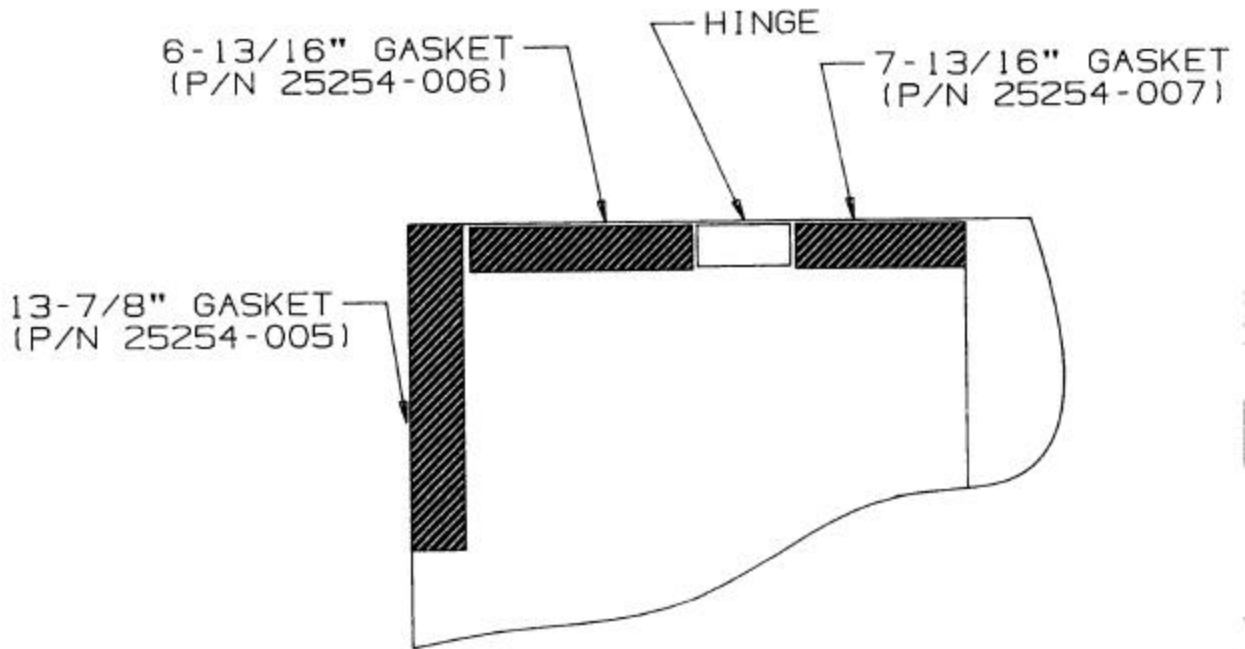

FIGURE 2
- A. Place gasket strips on both the right- and left-hand beverage dispensers (see Figure 2);
- H. Attach two (2) rubber bumpers, supplied in installation kit, to the lower corners of the *MER52*;